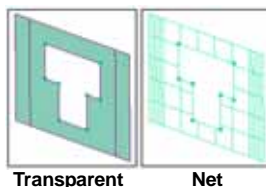

Figure 37: Transparent and net display methods for regions
- Figure 37 shows the display of regions in transparent versus net.